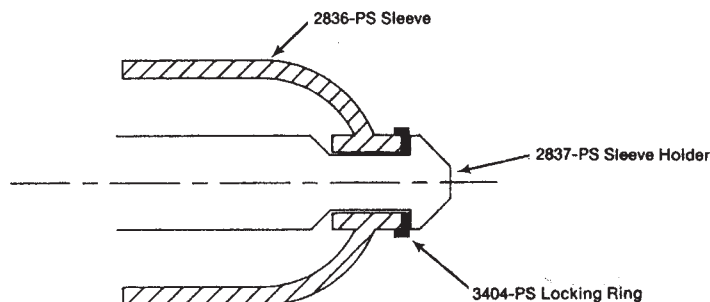

FIG. 3
- A distinct snap or click will indicate that the locking ring is properly in place (Fig. 3).